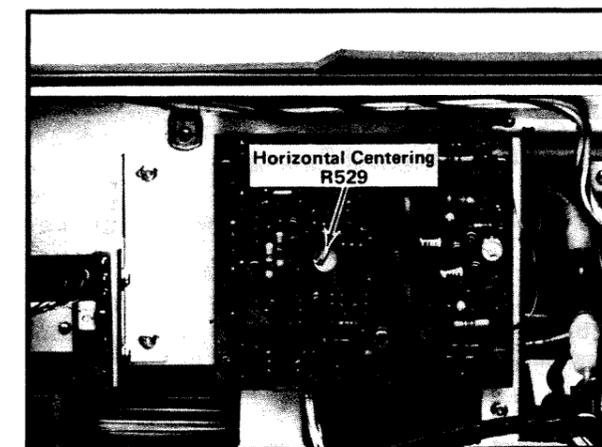

Fig. 5-14. Location of Horizontal Centering adjustment R529.
- e. ADJUST—Horizontal Centering adjustment R529 (see Fig. 5-14) to position the trace to the graticule vertical center line.